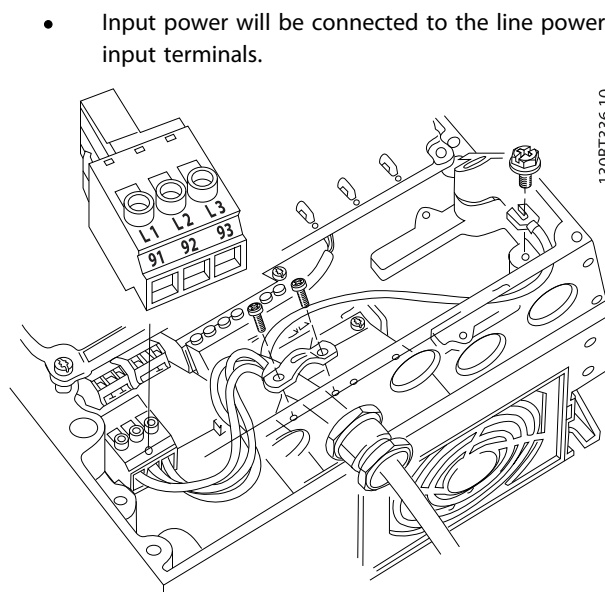

Figure 2.12 Connecting to AC Line Power
- Connect 3-phase AC input power wiring to terminals L1, L2, and L3 (see Figure 2.12).